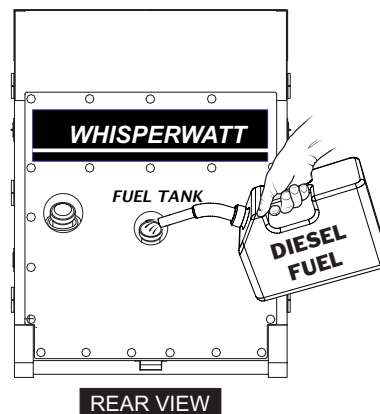

Figure 40. Fueling The Generator
2. Locate the **fuel filler port** at the rear of the generator. Remove the fuel cap and fill the tank as shown in Figure 40. Reinstall cap when done filling.